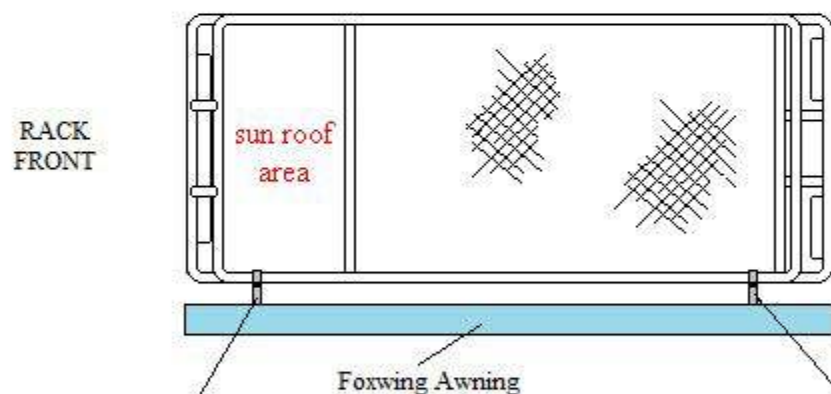

Fig. 1
The Awning should be installed on the Driver side of the vehicle so that the awning can wrap around the rear of the vehicle for best coverage results. Refer to Fig. 1 and Fig. 2 below for placement of support brackets (A). Start your measurement at the front of the Gobi rack as shown then space brackets (A) apart as far as possible.